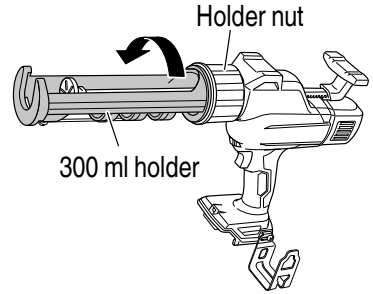

Fig. 11
- (1) Hold the holder nut and turn the holder in the direction of the arrow to remove it from the main body. (Fig. 11)